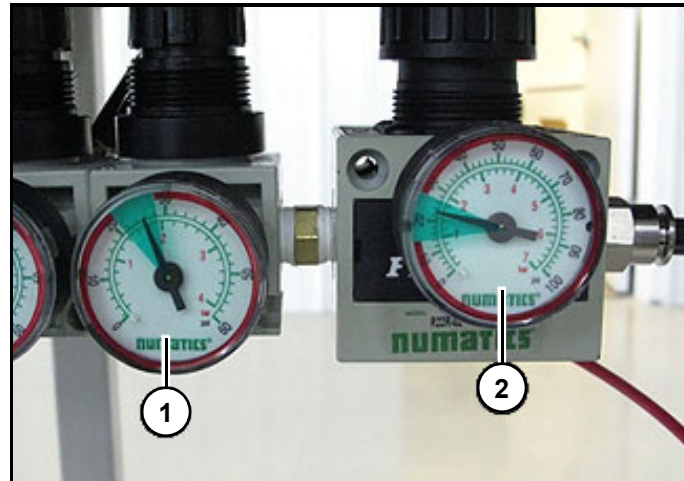

Figure 4
2. Verify drain gate regulator (1) is set to 25 psi and Venturi vacuum regulator (2) to 18 psi (this is an approximate, setting will vary per unit). (Figure 4)